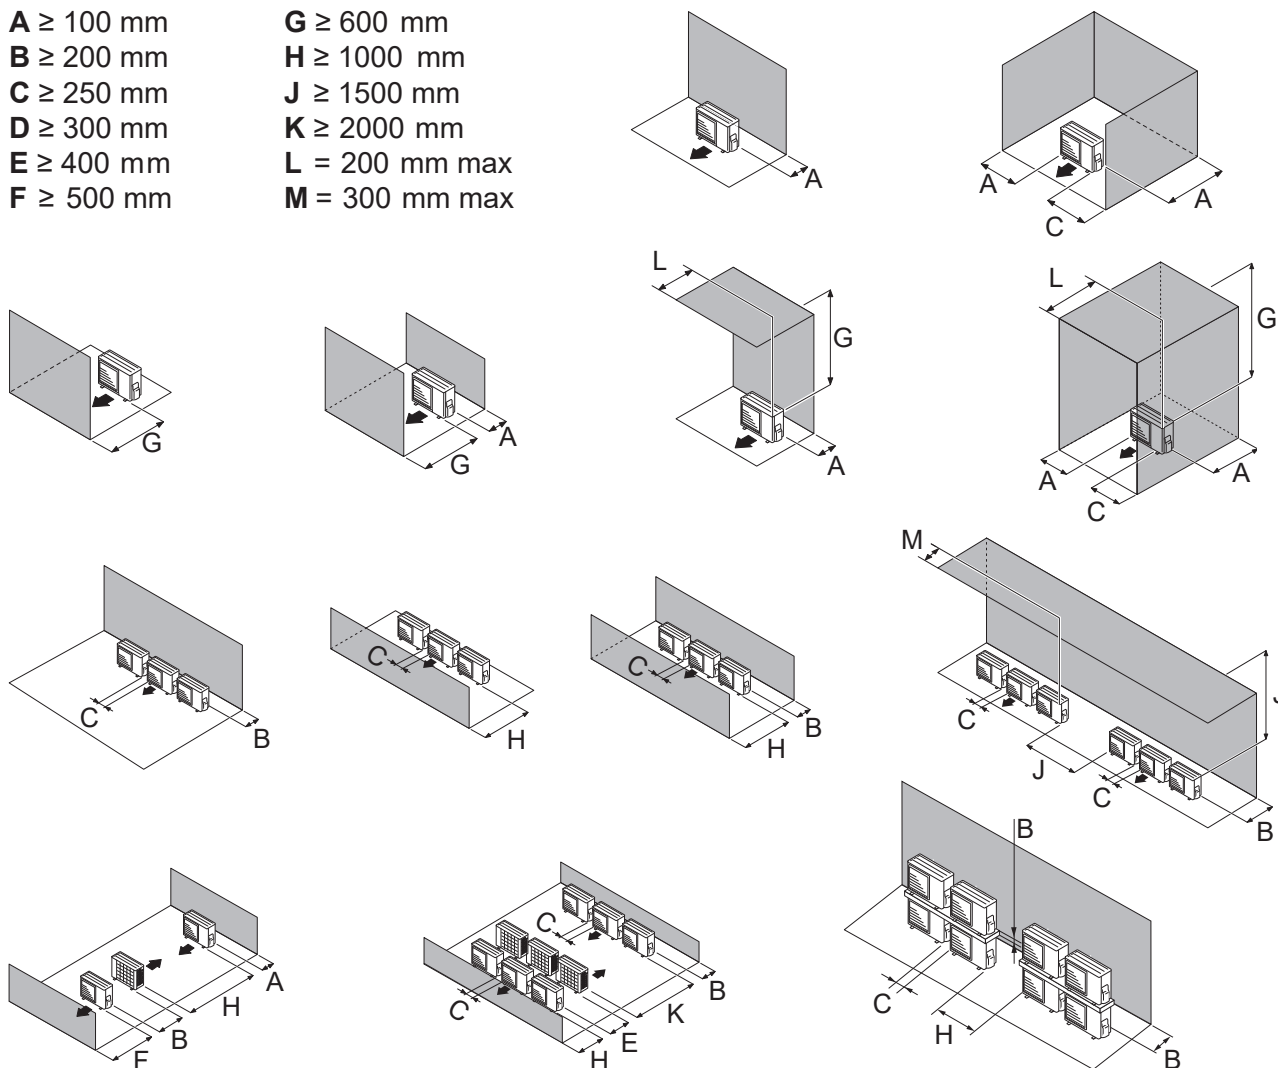

fig. 16 - Minimum installation clearances around the outdoor unit (model 5, 6 & 8)
- The unit must be easily accessible for future installation and maintenance work (*fig. 16 and fig. 17, page 18*).
- Caution should be taken to ensure that there is no obstruction to air circulating through the outdoor unit (*fig. 16 and fig. 17, page 18*).